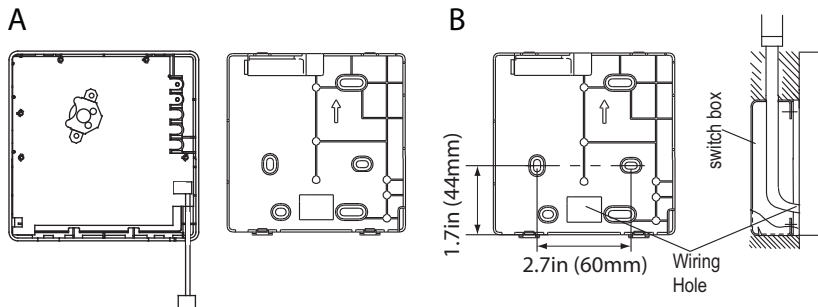

Fig. 6 — Wiring the controller
1. This manual provides the wired controller installation method. Refer to the wiring diagram (see Fig. 6 — on page 9) for guidance on wiring the wired controller to the indoor unit.